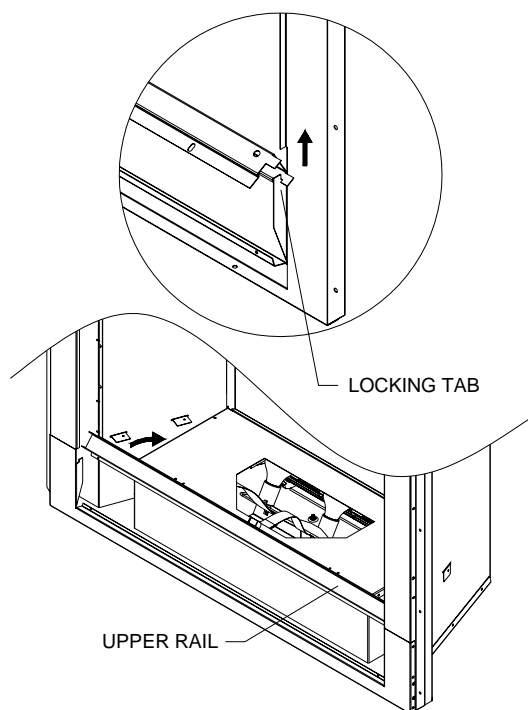

Figure 42 - Removing Lower Frame Rail
2. Rotate the top edge of lower frame rail inward and lift upward until locking tabs detach from the front face (see **Figure 42**).